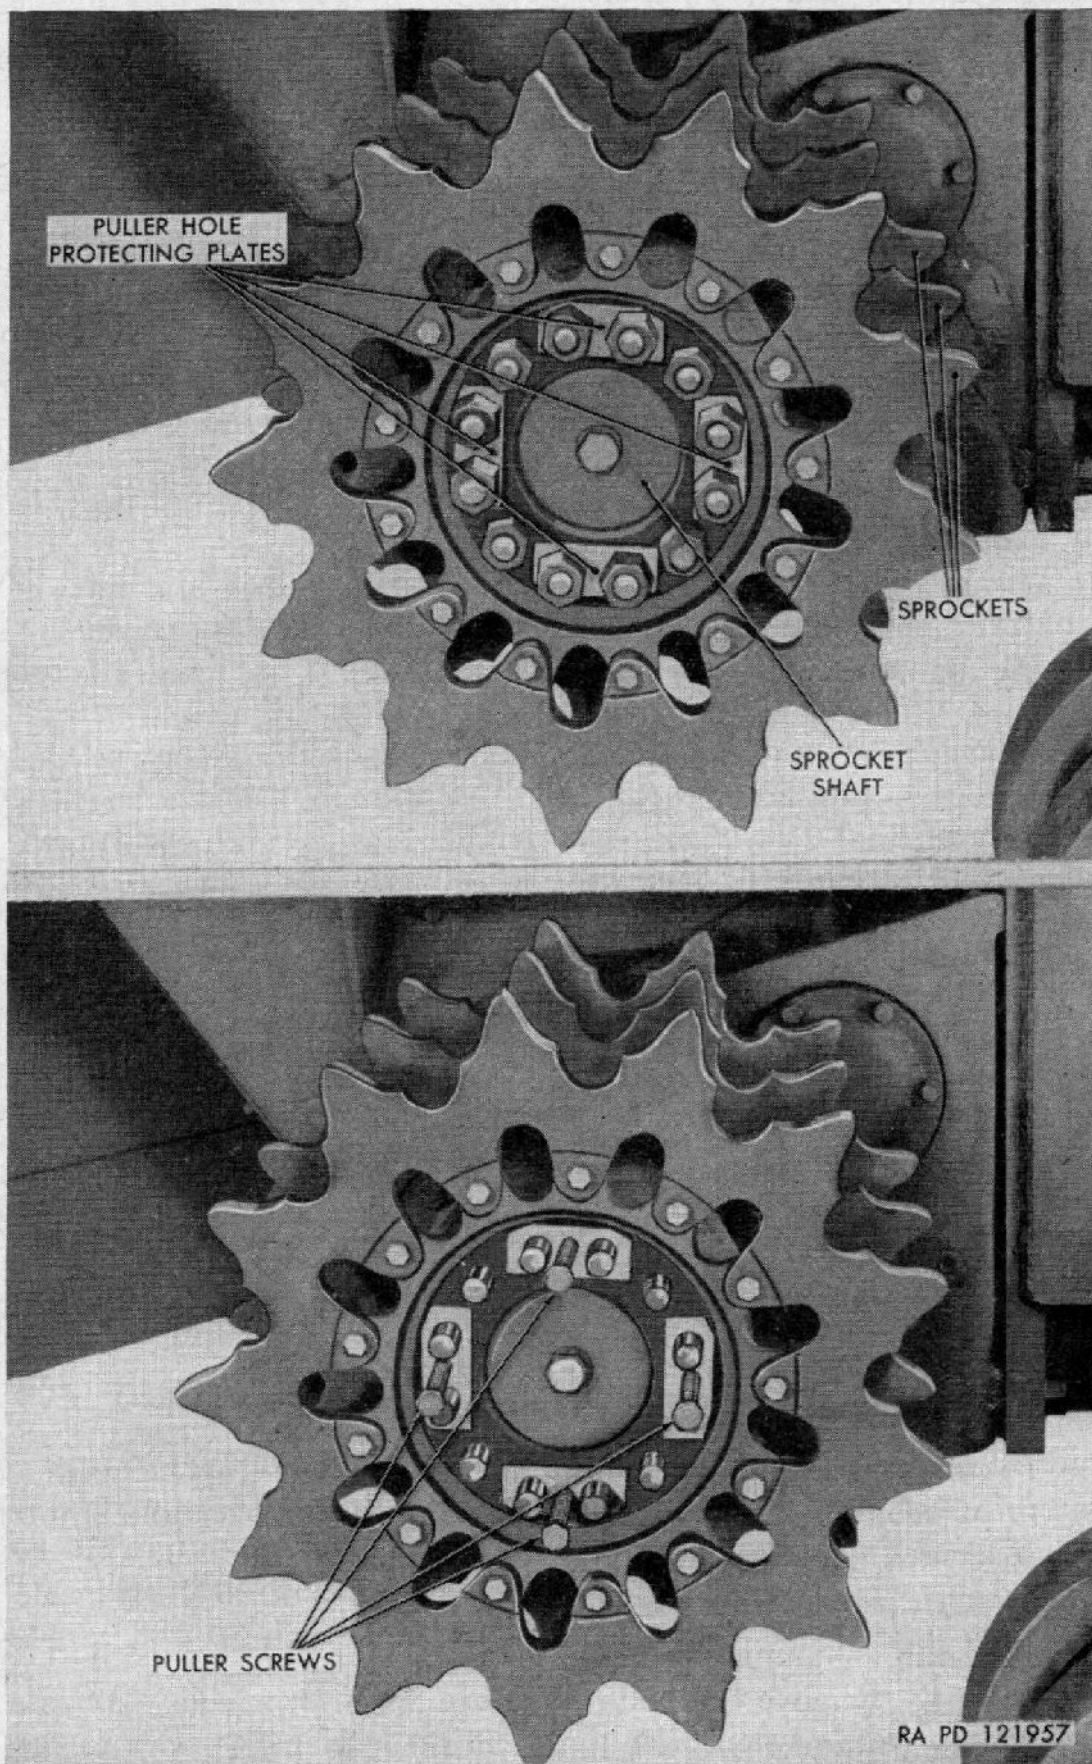

Figure 114. Drive sprocket removal.
d. Final Drive and Sprocket Assembly. Each drive sprocket assembly consists of three sprockets bolted to a single hub attached to a flange on the final drive sprocket shaft (fig. 114). The sprockets can be reversed to permit further wear when teeth become worn on one side. The teeth of the sprockets engage the track connectors and track guides.
a. Removal. Uncouple track (par. 204c) and back tractor until track drops off sprocket. Remove the 12 nuts from sprocket hub bolts. Remove the four puller hole protecting plates (fig. 114). Install $\frac{5}{8}$ x 5-inch NC full thread cap screws in the four tapped holes in hub and turn them in evenly to force hub off sprocket shaft and bolts. Lift assembly off with hoist. Remove sprockets from the hub by removing the 13 bolts from each sprocket (fig. 114). The sprockets should be reversed or replaced when worn to a point where wedge bolts contact the sprockets.
b. Installation. Install sprockets on hub with 13 bolts in each. Then raise sprocket assembly with a hoist and slide assembly over the sprocket shaft and bolts. Install the four puller hole protecting plates on bolts. Install and tighten the 12 nuts on the sprocket bolts (fig. 114). Install track as explained in paragraph 204d.